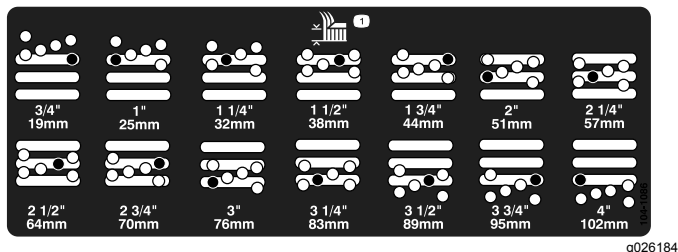

Figure 16
4. While supporting the chamber, remove the spacer (Figure 16).
5. Move the chamber to the desired height of cut and install a spacer into the designated height-of-cut hole and slot (Figure 16).